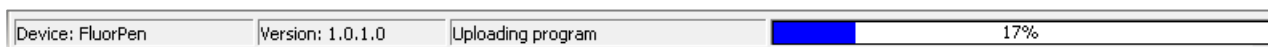

Fig. 33 Firmware upload progress.
- The bottom bar indicates the upload progress (Fig. 33).